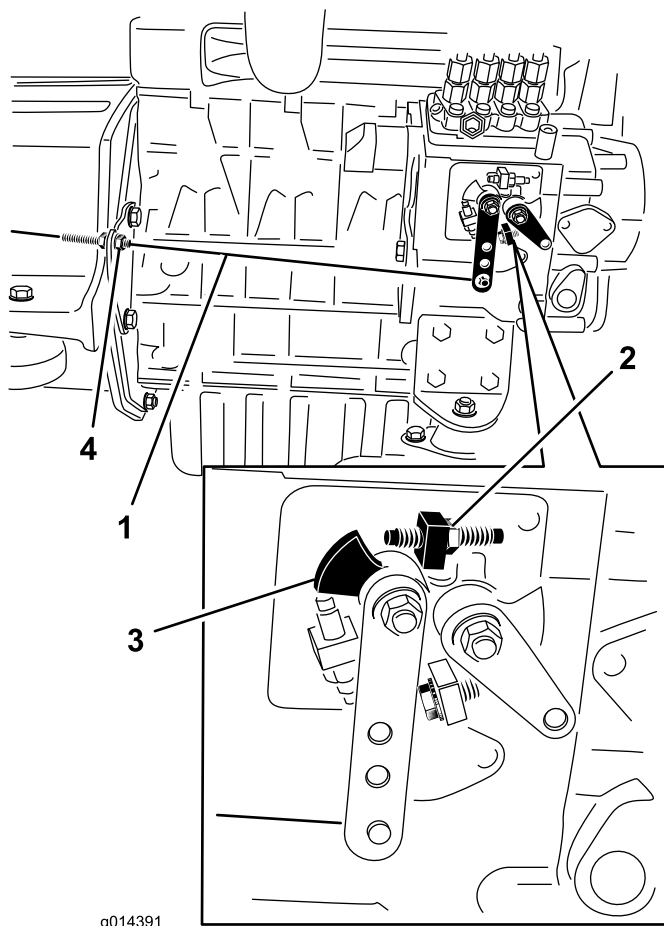

**Figure 34**
1. Remove the drain plug (Figure 34) and let the oil flow into a drain pan.
3. Remove the oil filter (Figure 34).